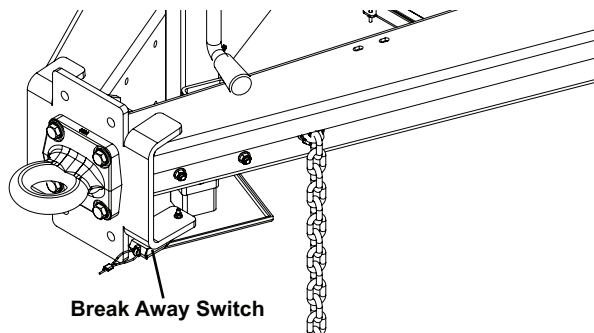

Figure 5
8. Plug in the electrical connections for the trailer brake lights, and hook up the breakaway switch cable (Figure 5).